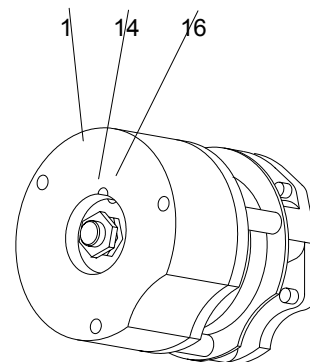

figure 27: Adjusting nut for clutch power
(see figure 27)
1. Put thickness gauge between magnetic coil (1) and anchor plate (2) (inserting not more than 10 mm).
2. Tighten the 3 lock nuts until the air gap between magnetic coil and anchor plate reaches the dimension in fig 27.